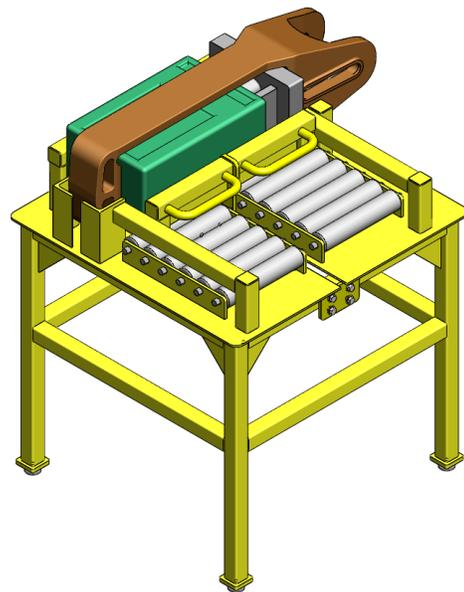

FIGURE 4
5. Grab the two handles on the pusher arm and push the draft gear components into the yoke until they are fully seated. Keep your hands and fingers away from the draft gear components while they are assembling (Figure 4).